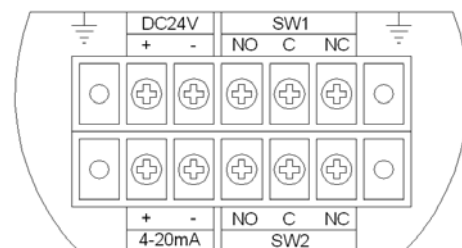

FIG. 2
3. Connect lead cable to power terminal matching polarity as shown in FIG.2 below. Take care that wrong wiring will damage the Instrument and malfunction (AC220V is not concerned to polarity)
1. Connect lead cable to current out terminal matching polarity as shown in FIG.2 below.